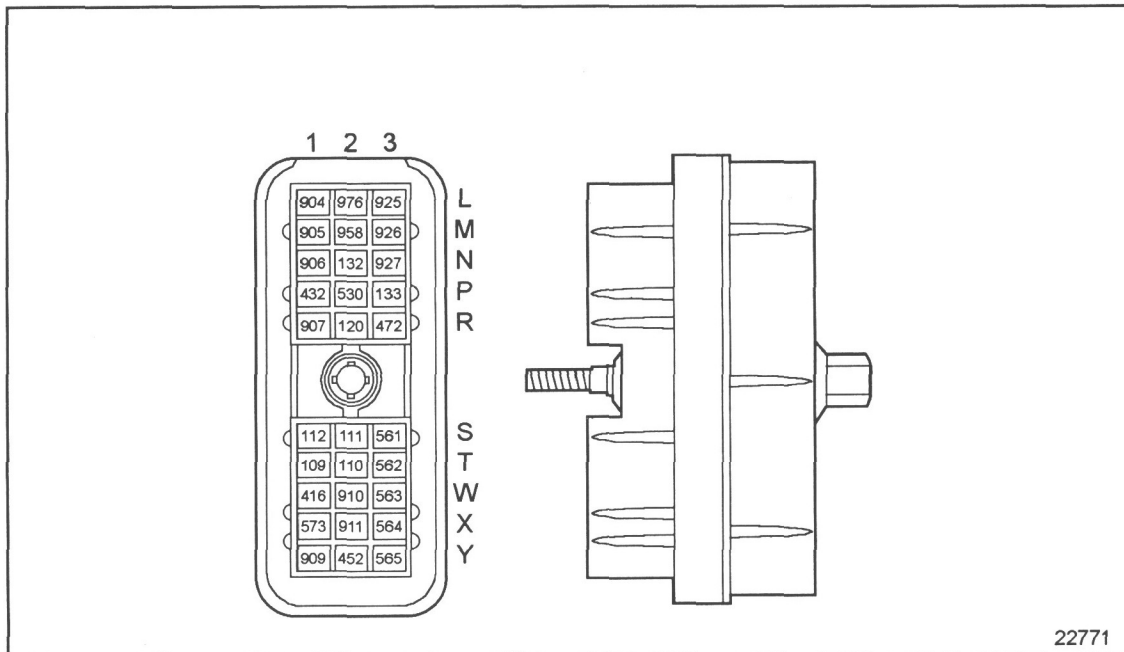

Figure 42-2 ECM Engine Harness Connector
3. Measure resistance between sockets S1 and S2 on the engine harness connector. See Figure 42-2.